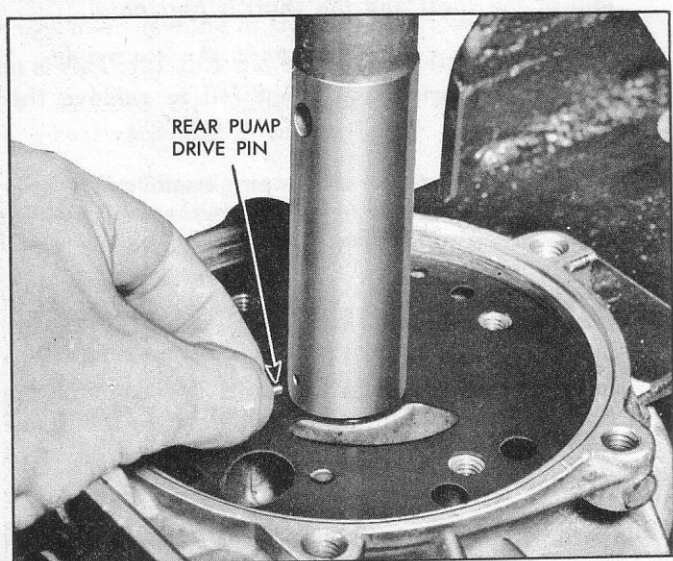

Fig. 12—Removing Rear Oil Pump Drive Pin
9. Remove the oil pump drive pin (fig. 12). This is of extreme importance. Do not fail to remove this drive pin.